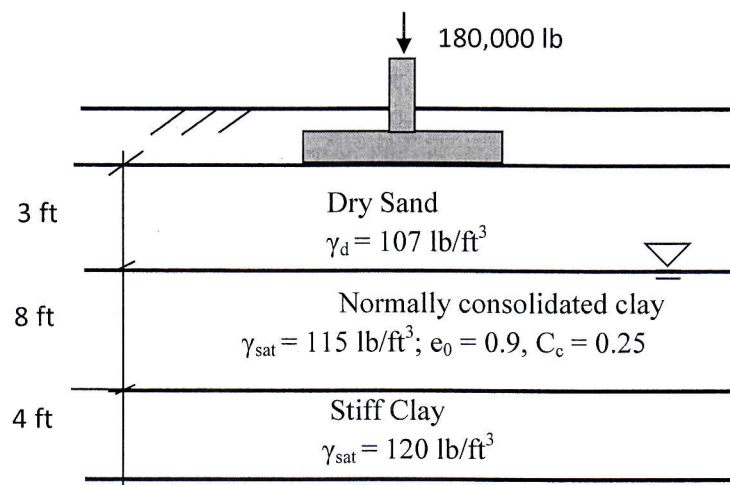

Figure 1
- 2 Calculate the total settlement (primary consolidation settlement and immediate settlement) of the square footing of size 5 ft x 5ft, shown in Figure 1. Use 2:1 pressure distribution.